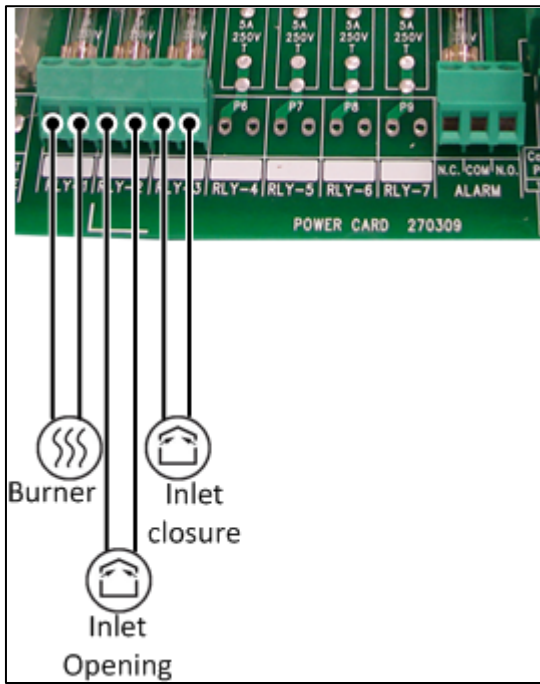

Figure 8: RTDC-4 Relay Wiring
- Figure 8: RTDC-4 Relay Wiring